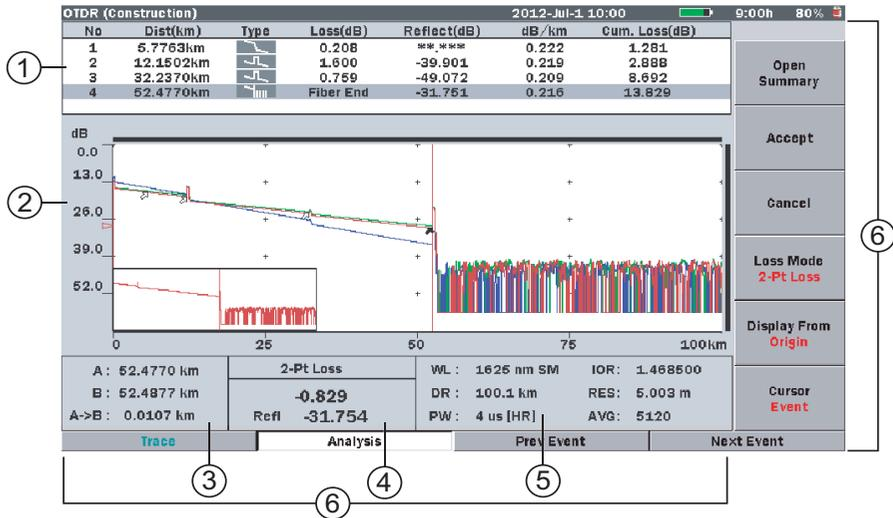

Figure 6-20: Test Results screen with Summary Closed
The Cursor Distance information (see item 3 in Figure 6-20 on page 6-52) displays the following:
The Loss Mode, Measurement, and Reflectance area (see item 4 in Figure 6-20 on page 6-52) displays the following:
The Fiber Test Parameters area (see item 5 in Figure 6-20 on page 6-52) displays the Wavelength (WL), Distance Range (DR), Pulsewidth (PW), Index of Refraction (IOR), Resolution (RES), and Averaging mode (AVG) set for the current test.